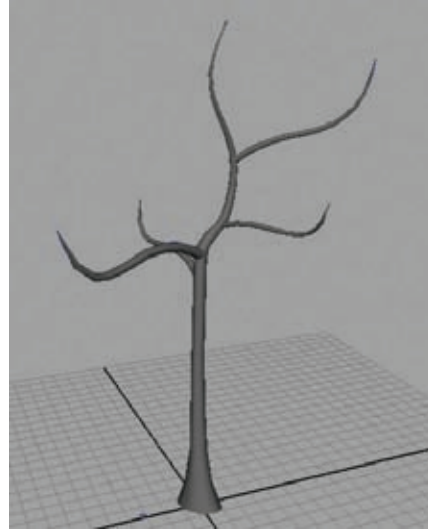

Figure 2.23
17. You can duplicate, reposition, and scale the existing branch to make new ones, or you can repeat the previous steps to make new branches from scratch. Whichever method you choose, make about three or four more large branches and position them on the tree to make an interesting shape. Mine turned out like Figure 2.23.